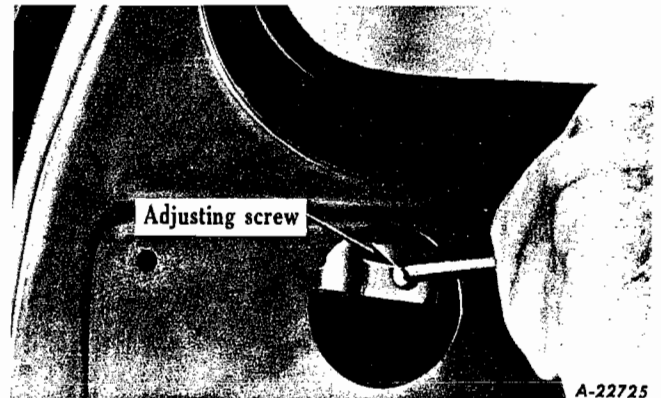

Fig. 30
5. Loosen door vent glass window adjusting screw (Fig. 30).